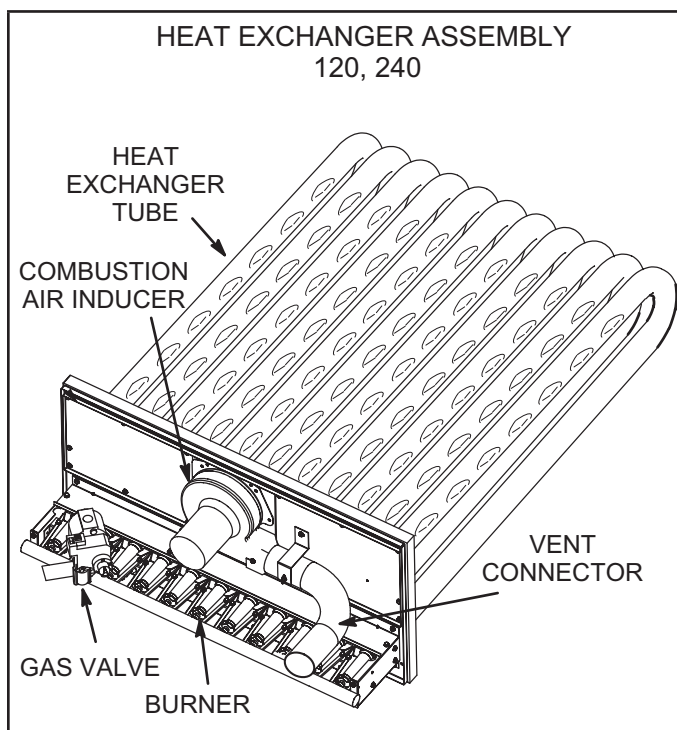

FIGURE 64
- 3 - Remove and retain screws securing combustion air inducer to flue box. Remove vent connector. See FIGURE 51 for 036 and 060 units and FIGURE 64 for 120, and 240 units.